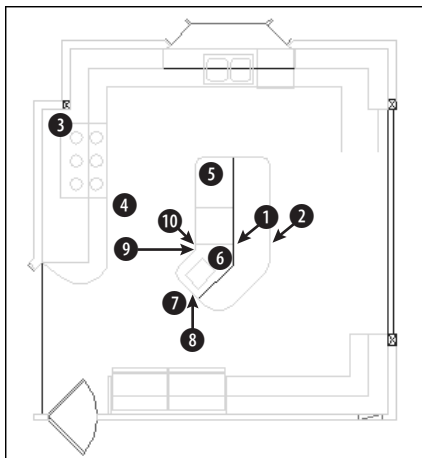

Figure 9-20: A kitchen floor plan
1. Open `ab09-f.dwg` from the CD-ROM, as shown in Figure 9-20.
3. Draw a line from ① to ② in Figure 9-20. You will use this later to illustrate the Last selection option.
5. To select the six-burner stovetop, pick a point near ③, being careful that the pickbox at the intersection of the crosshairs doesn't touch any object. Transparently zoom in and back out if necessary. Then move the mouse to ④ and pick again. The objects chosen appear dashed to indicate that they have been selected.
10. Turn on OSNAP. Start the MOVE command. At the **Select objects:** prompt, type **p** ↵ and then press Enter again to end object selection. At the **Specify base point or displacement:** prompt, pick the endpoint at ⑨ in Figure 9-20. At the **Specify second point of displacement or <use first point as displacement>:** prompt, pick the endpoint at ⑩. AutoCAD moves all the objects.